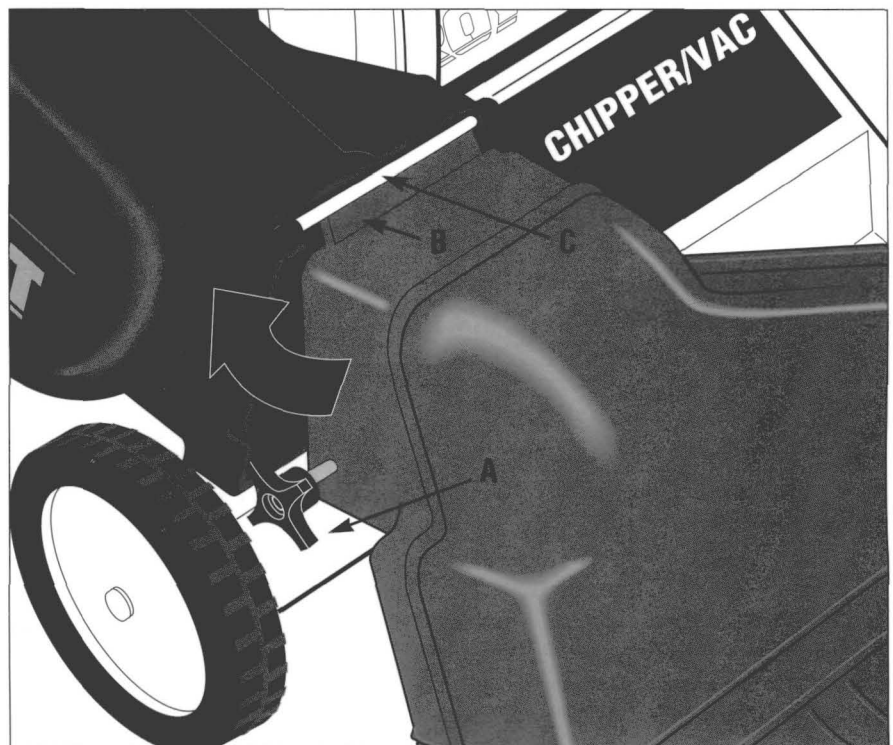

Figure 4-4: Attachment knob (A), attachment tab (B), and metal rod (C).
3. Loosen the threaded knob (A, Figure 4-4) on each side of the attachment. Pivot the attachment upward and disengage the tab (B) from the metal rod (C) on the top of the vacuum inlet.
1. Loosen the threaded knob (A, Figure 4-4) on each side of the attachment.
2. Slide the attachment into the vacuum inlet opening, tilting the top of the attachment downward slightly until the tab (B) fits behind the metal rod (C) on the top of the vacuum inlet.